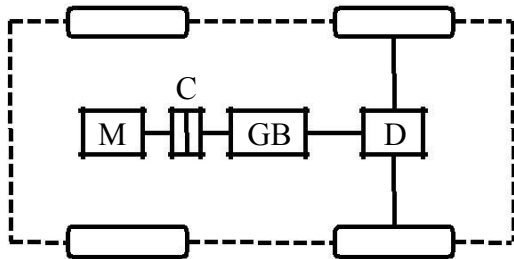

Figure 3a: EV configuration with clutch, gearbox and differential [1]
- In **Figure 3a** a single EM configuration with gearbox (GB) and a clutch is shown. It consists of an EM, a clutch (C), a gearbox, and a differential (D). The clutch enables the connection or disconnection of power flow from EM to the wheels. The gear consists of a set of gears with different gear ratios. With the use of clutch and gearbox, the driver can shift the gear ratios and hence the torque going to the wheels can be changed. The wheels have high torque low speed in the lower gears and high-speed low torque in the higher gears.